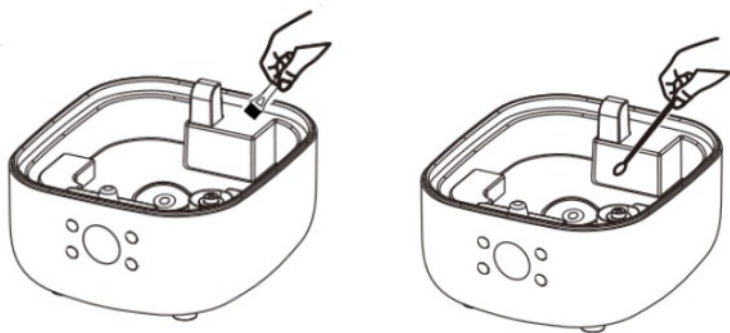

Figure 7
3. After using the device for a while, scale is easily deposited and "white powder" phenomenon is formed, it is attached to the surface of the atomizing transducer (17), which affects the humidification performance. It is necessary to clean the main elements regularly. To clean the main components, see Figure 7.